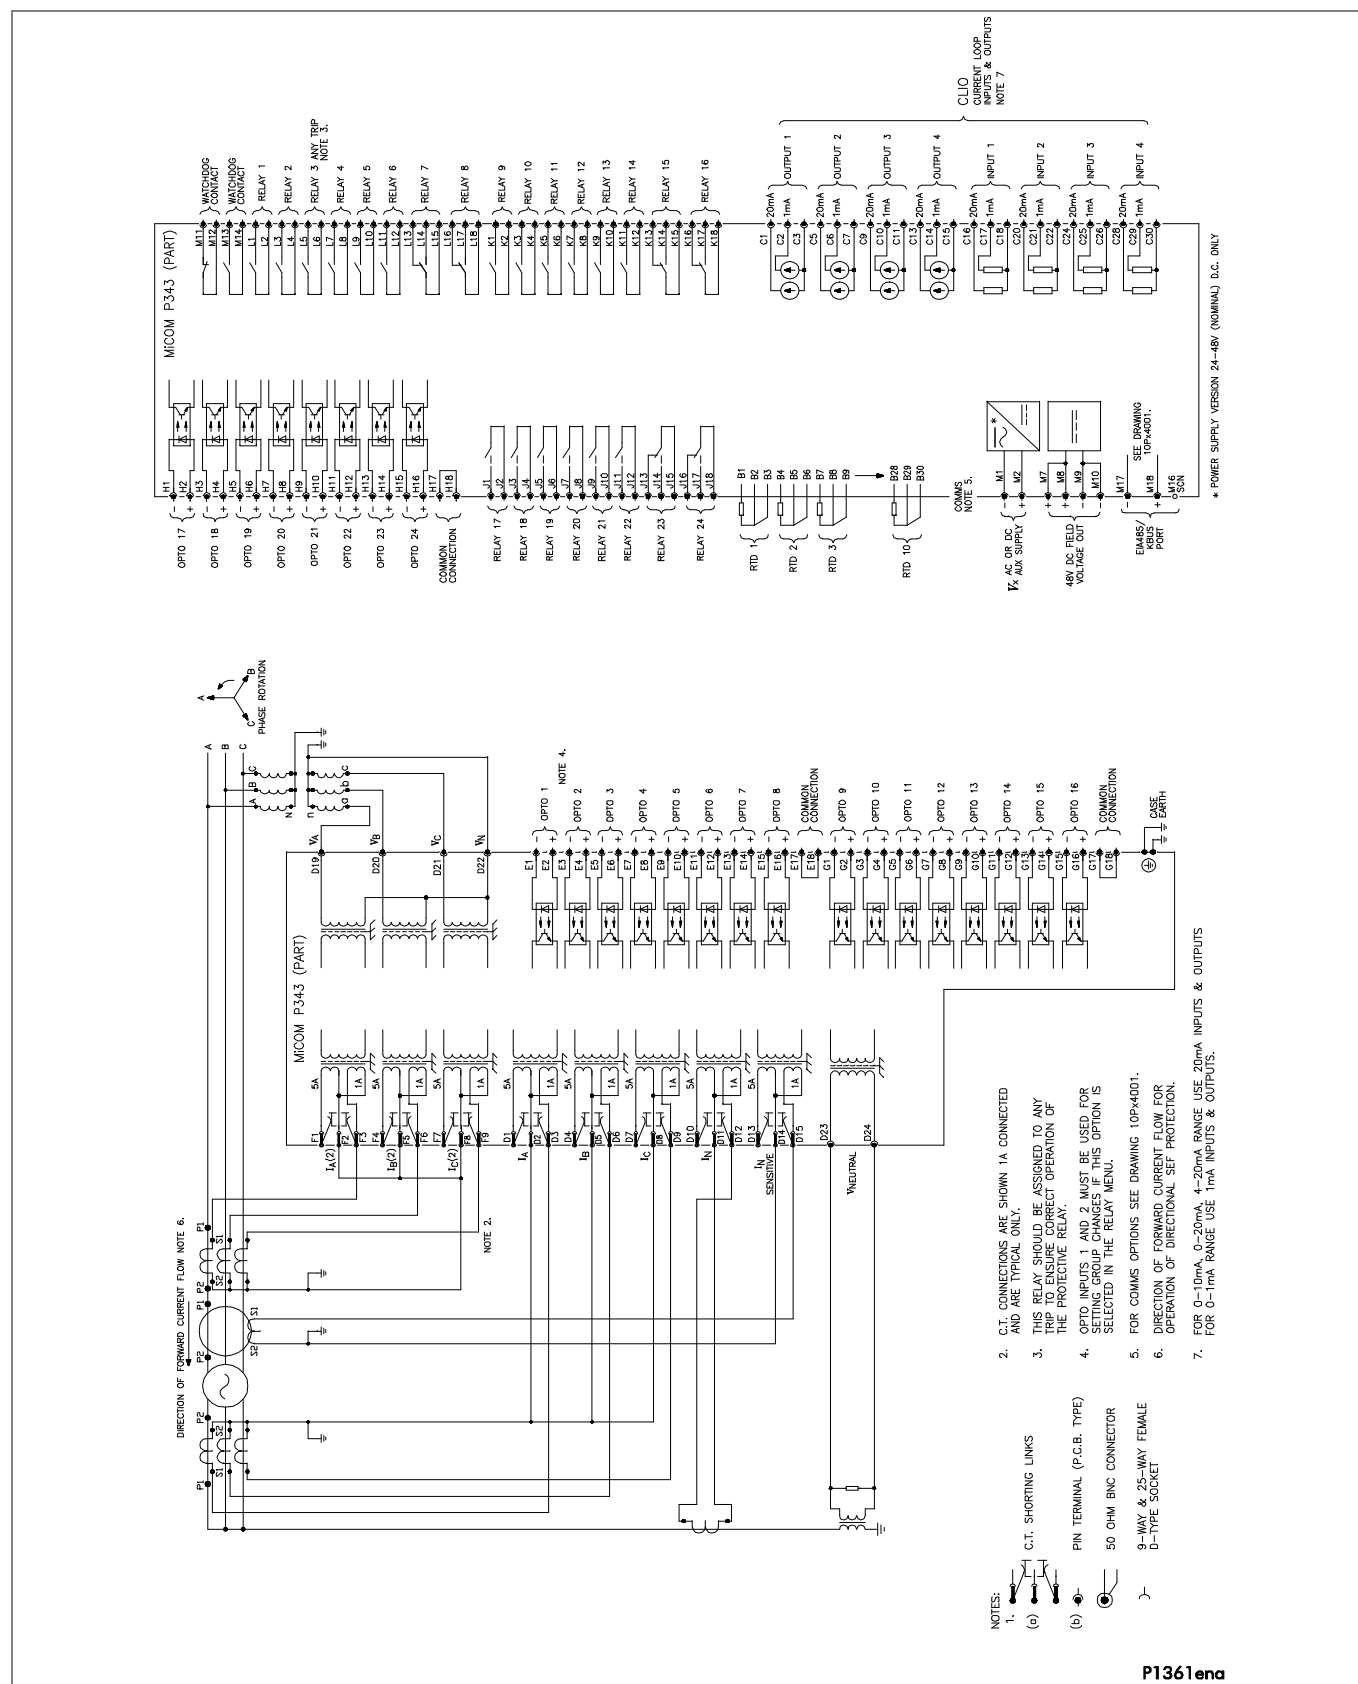

Figure 34 - P343 (80TE) with biased differential (24 I/P & 24 O/P RTD's & CLIO)
- Figure 34 - P343 (80TE) with biased differential (24 I/P & 24 O/P RTD's & CLIO)